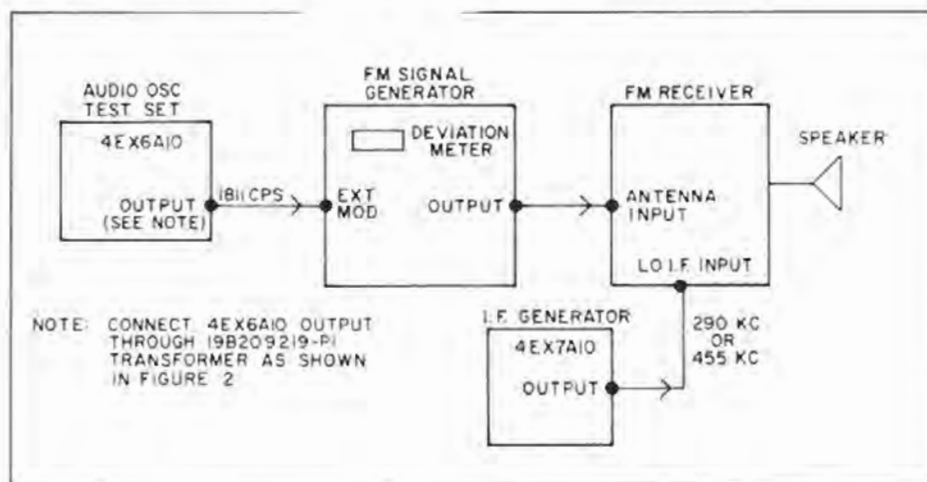

Figure 3 - Equipment Connections Using FM Signal Generator
1. Make equipment connections as illustrated in Figure 3.